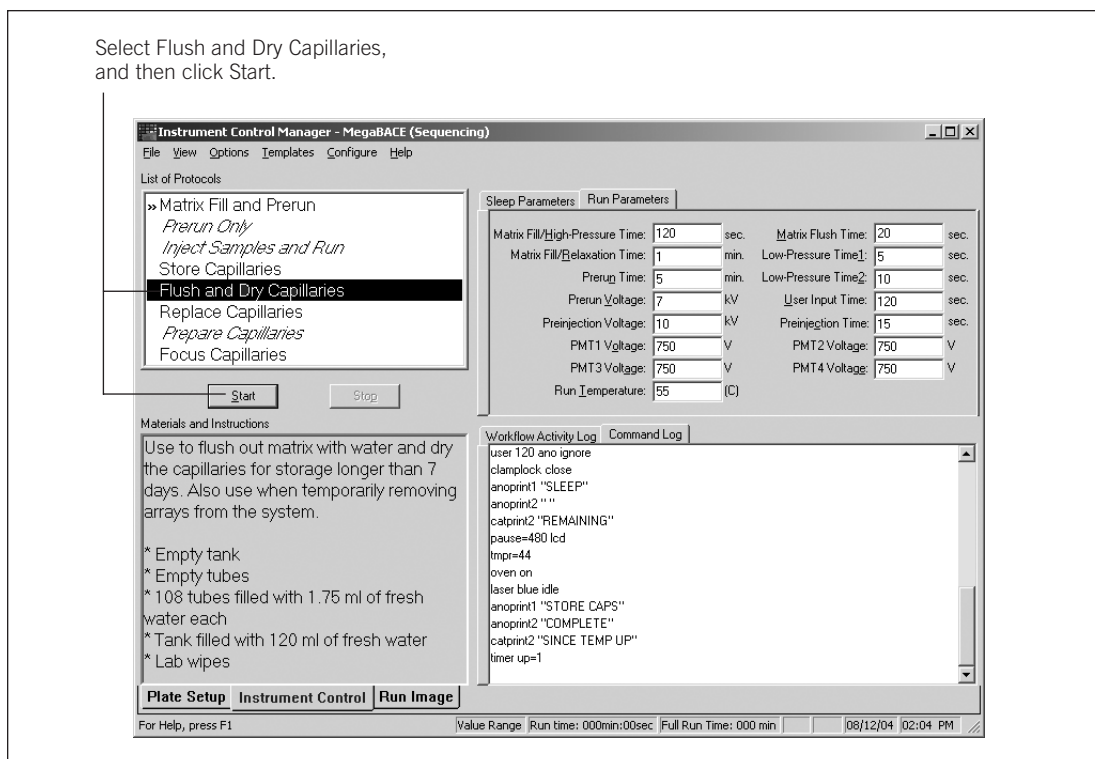

Figure 5-4. The Instrument Control window.
1. Click the **Instrument Control** tab (figure 5-4) to display the Instrument Control window.
The software selects and places a double arrow in front of the Prepare Capillaries protocol in the List of Protocols (figure 5-4).